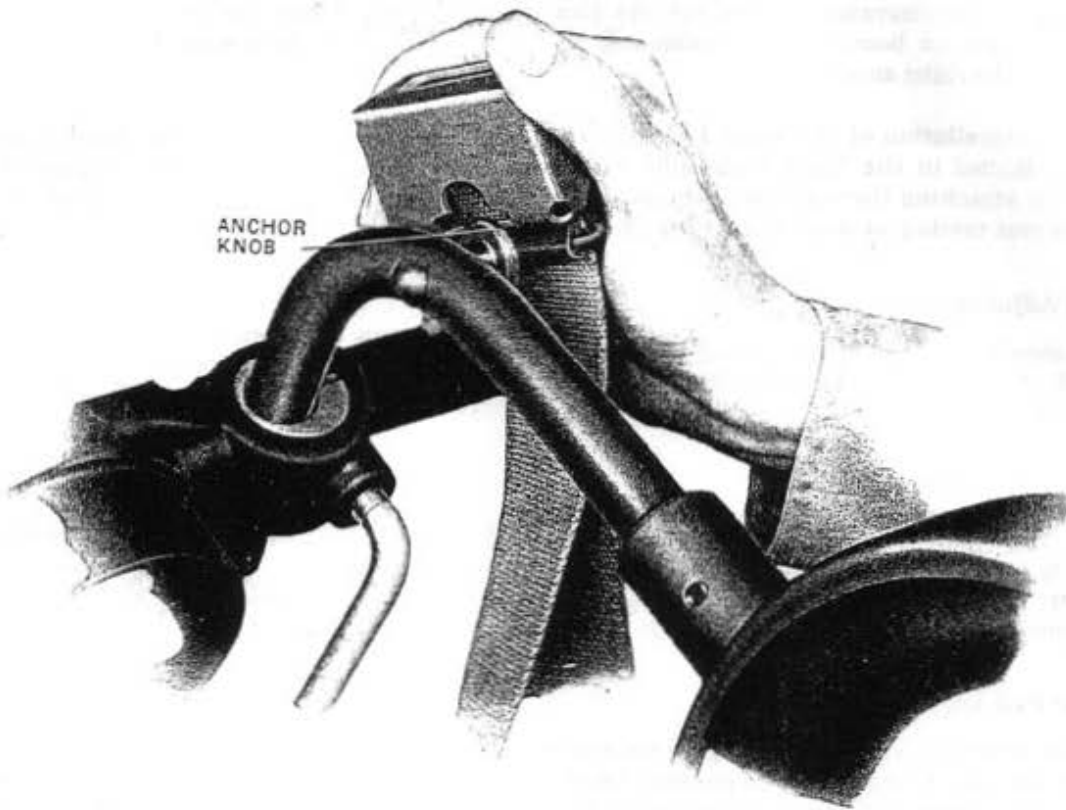

Figure 74—Hook buckle over knob
1. With gunner in approximate position, pass shoulder strap around gunner's back and hook buckle over anchor knob on right side of shoulder piece support, see Figure 74.